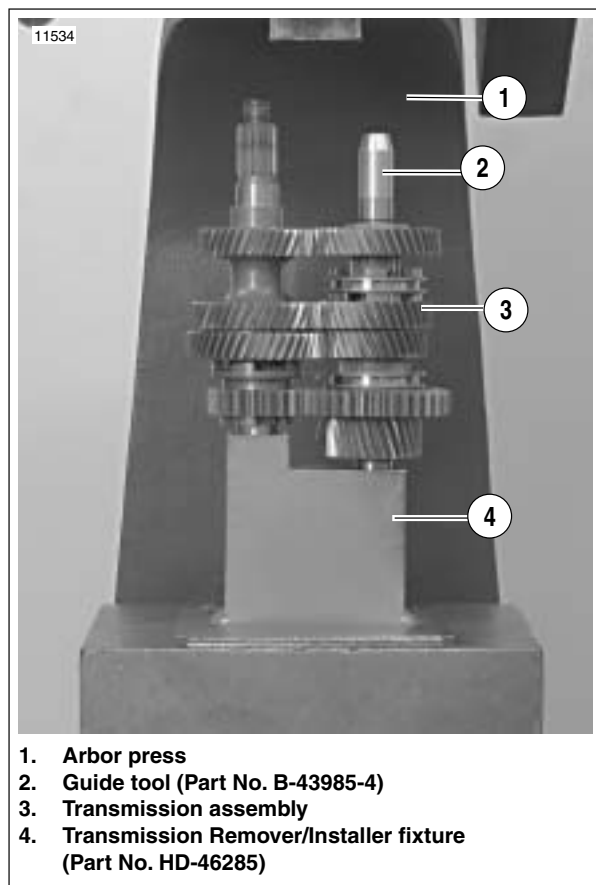

Figure 6-87. Transmission Assembly in Fixture (Typical)
1. See Figure 6-87. Place transmission assembly onto TRANSMISSION REMOVER/INSTALLER FIXTURE (Part No. B-46285) on arbor press.